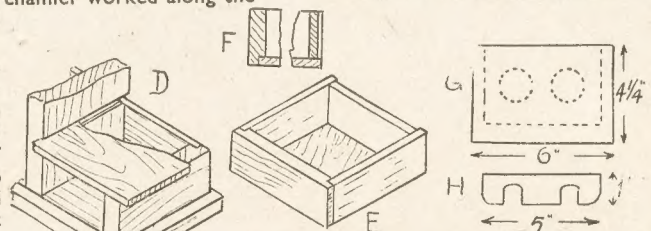

Fig. 2—The end and drawer construction
This is drawn at (E) in Fig. 2. Its size will be that of the drawer opening, of course, and its depth the same. Construction is simple but neat. Cut the front from the thicker wood, and the rest from the thinner wood, or fretwood as may be necessary. The front is rebated for the drawer sides to fit in. The end piece is cut narrower than the sides, as the bottom is to be nailed to it.